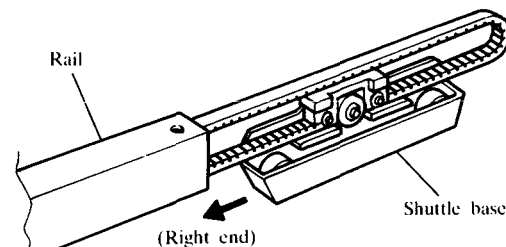

Fig. 80
- (1) Put the Driving belt into the Rail and set the Shuttle base to the Rail. (The shuttle cover is facing towards you) (Refer to Fig. 80)